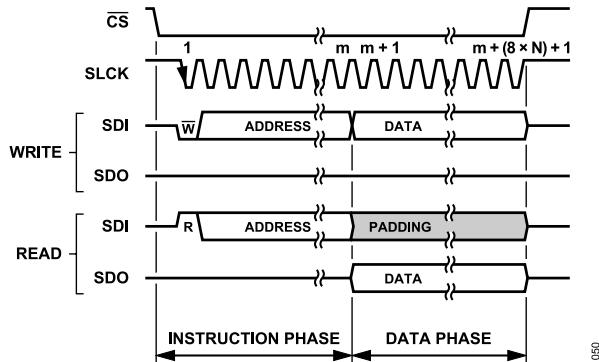
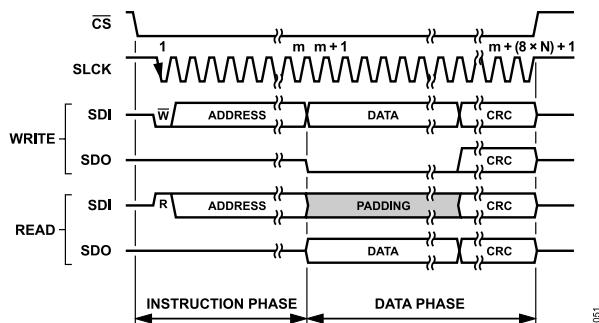

Figure 52. Generic SPI Configuration Frame, CRC Disabled
Figure 53. Generic SPI Configuration Write Operation, CRC Enabled
and the starting address for the transaction are transmitted to the AD4087. The instruction phase is immediately followed by a data transaction phase during which one or more bytes of information is exchanged between the host and the AD4087. This content is framed by a continuous assertion of the interface chip select (CS) as illustrated in the generic timing presented in Figure 52 and Figure 53.